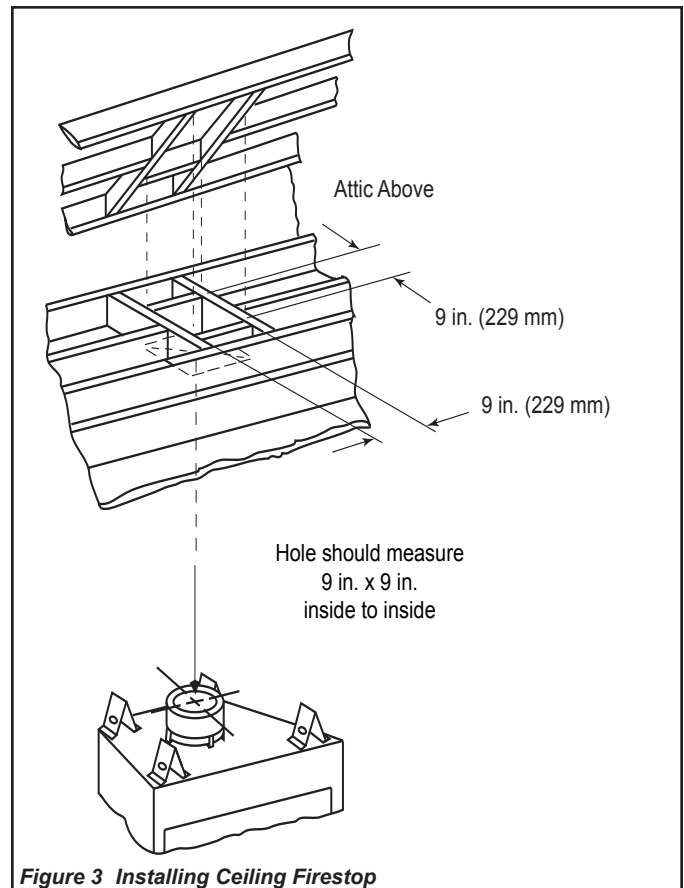

Figure 3 Installing Ceiling Firestop
2. Install firestop spacers, *Figure 3*, when penetrating ceilings, attic spaces, or walls.
- Frame an opening 9 in. x 9 in. (229 mm x 229 mm) whenever the vent system penetrates a ceiling/floor (see Figure 3)